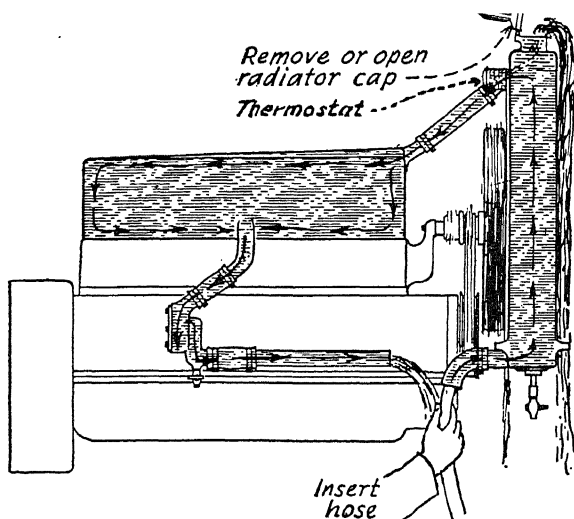

Fig. 21. Flushing a Rust- and Scale-Clogged Cooling System Which Is Fitted with a Thermostat
*Flushing a System with a Thermostat.* The thermostat may be in the upper line or hose connection as shown in Fig. 21. The thermostat is open only when the temperature of the cooling system reaches a certain predetermined point. If cold water is used for flushing, it will not cause the thermostat to open, with the result that one or two things must be done. Possibly the best plan is to